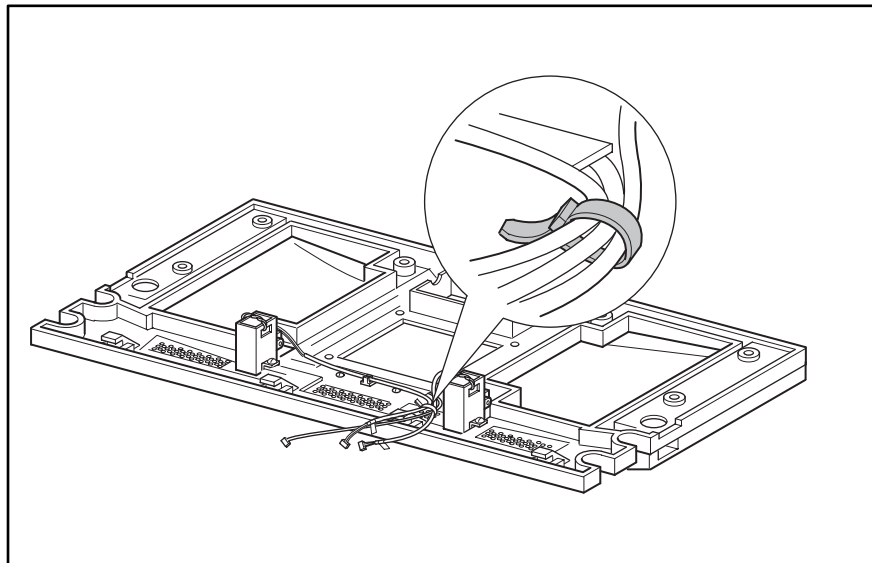

Figure 2-12: Magazine door latch solenoid cable tie
4. Remove the cable tie that is near the left door solenoid that ties the two solenoid cables and the power LED cable together. Remove the cable tie (see Figure 2-12).